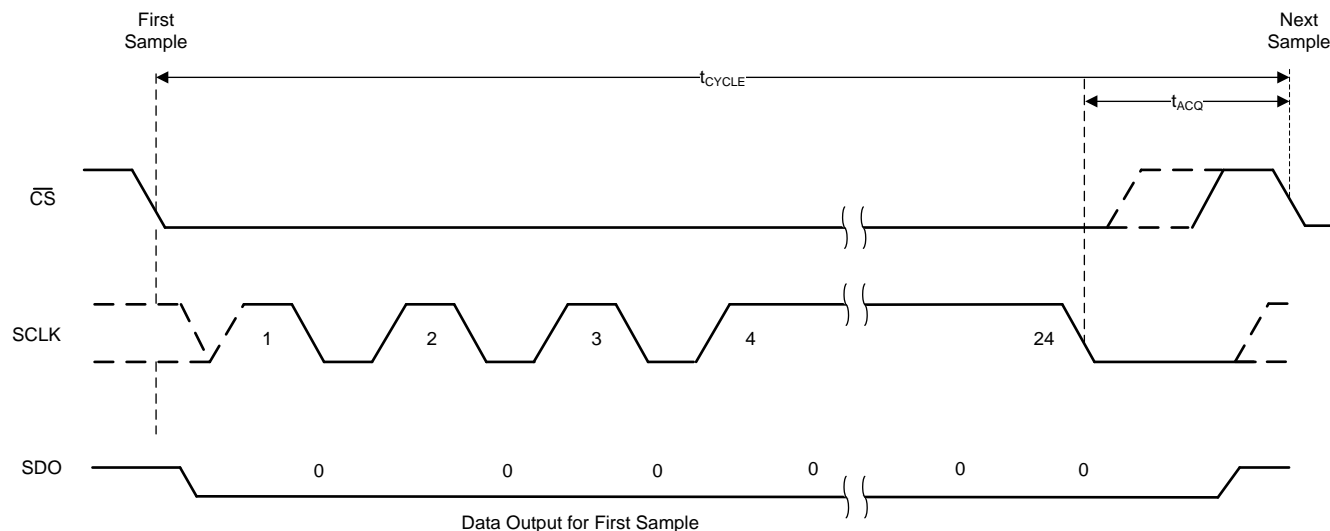
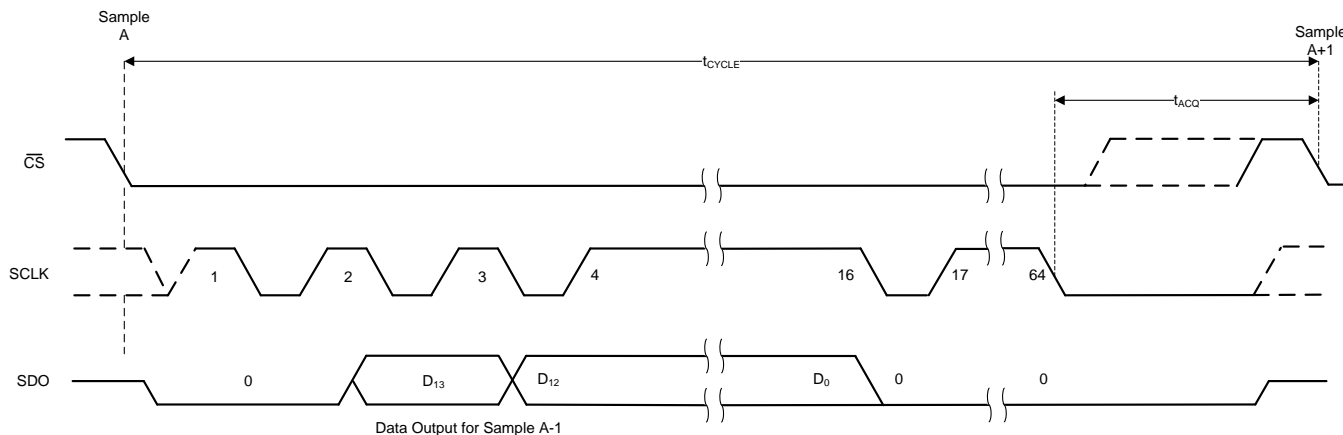

Figure 38. Timing for Offset Calibration on Power-Up
Figure 39. Timing for Offset Calibration During Normal Operation
The host controller must provide a serial transfer frame as described in Figure 38 or in Figure 39 to enter the OFFCAL state.
If the host controller starts the offset calibration process but then pulls the \overline{CS} pin high before providing 24 SCLKs, then the offset calibration process is aborted and the device enters the ACQ state. Figure 38 and Table 3 provide the timing for offset calibration on power-up.
(1) In addition to the timing specifications of Figure 38 and Table 3, the timing specifications described in Figure 2 and the Timing Requirements table are also applicable for offset calibration on power-up.
If the host controller provides more than 18 SCLKs but pulls the \overline{CS} high before providing 64 SCLKs, then the offset calibration process is aborted and the device enters the ACQ state. Figure 39 and Table 4 provide the timing for offset calibration during normal operation.
- (1) In addition to the timing specifications of Figure 39 and Table 4, the timing specifications described in Figure 2 and the Timing Requirements table are also applicable for offset calibration during normal operation.